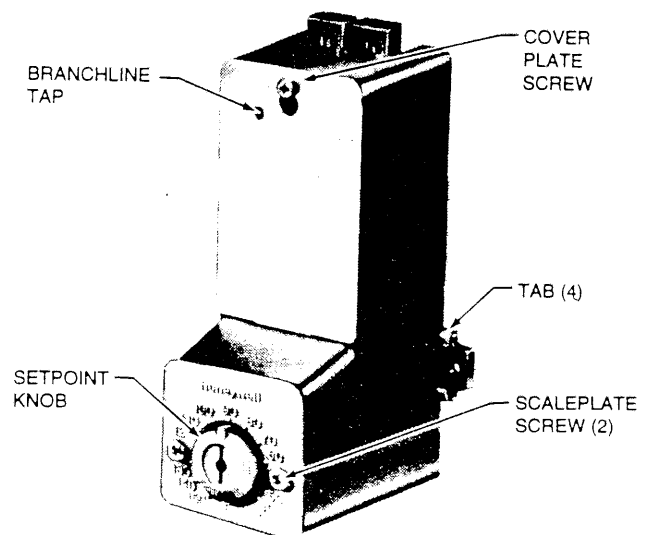

Fig. 5. Branch Line Tap Location.
Verify device operation by checking the pressure at the branchline tap (Fig. 5), located below and to the left of cover holding screw. The branchline pressure should build up and bleed down through its full range as the setpoint knob is rotated.
1. Remove the cover by loosening one screw and sliding cover so keyhole clears screwhead (Fig. 5).
1. Remove the two screws that hold the Scaleplate (Fig. 5).
2. Straighten four tabs and remove the Mounting Plate (Fig. 5).
5. Replace screws and Mounting Plate and rebend the four tabs (Fig. 5).